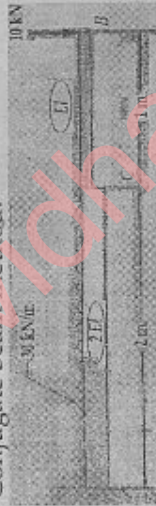

Fig. 1.3
9. (a) Determine the slope and deflection at B and C in the cantilever beam as shown in Fig.1.3 by Conjugate beam method. 10